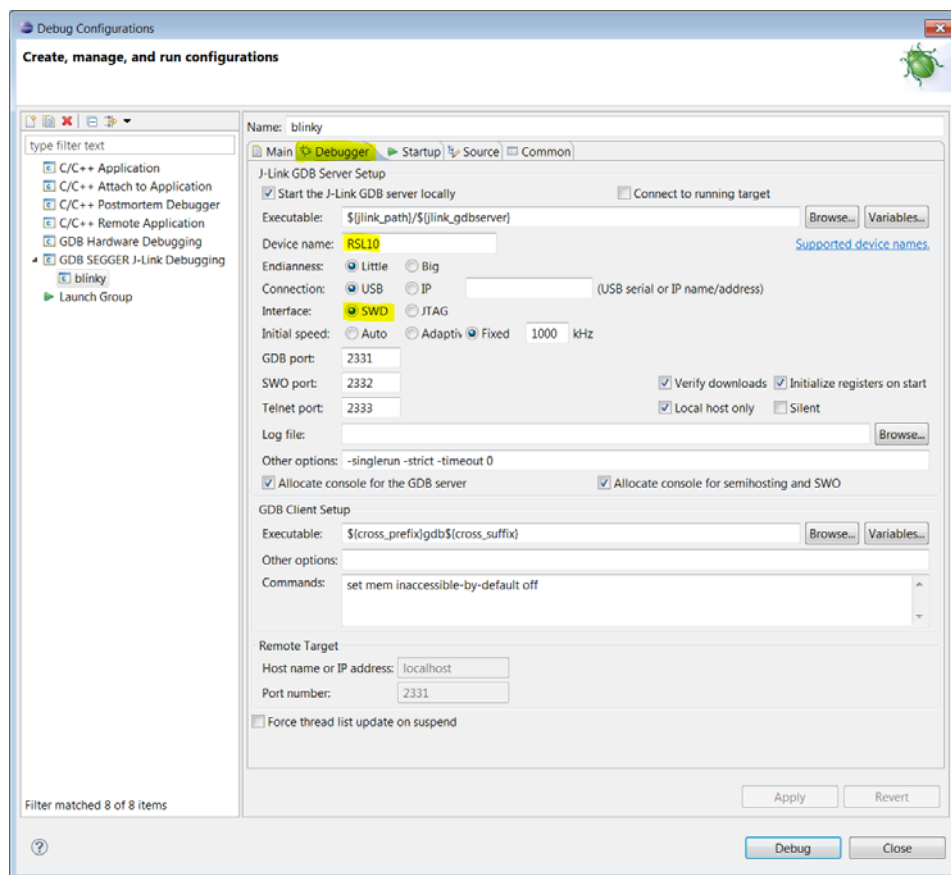

Figure 11. Setting Up a GDB Launch Configuration, Debugger Tab
3. Change to the **Debugger** tab, and enter `RSL10` in the **Device** field. Ensure that **SWD** is selected as the target interface (as shown in Figure 11 on page 14).